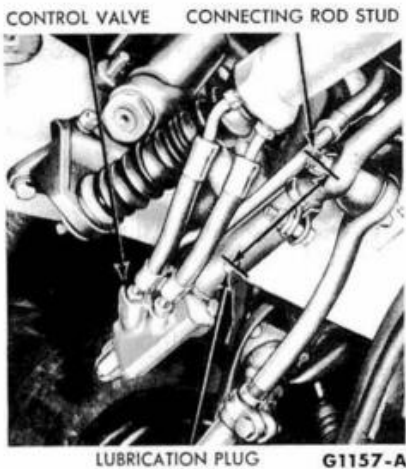

FIG. 10—Control Valve Installation Measurement—Typical—Comet, Falcon, and Fairlane
3. Measure the distance between the center of the grease plug in the sleeve and the center of the stud at the inner end of the left-hand spindle connecting rod (Fig. 10). The distance should be $5\frac{1}{4}$ inches. If the distance is not correct, disconnect the ball stud from the sector shaft arm and turn the valve on the steering arm to idler arm rod to increase or decrease the distance.